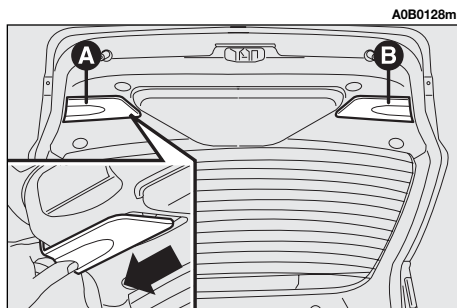

fig. 48
- Remove the cover (**A** or **B**-fig. 48) in correspondence with the light concerned, withdrawing it at the side.
— Refit the lid (**A** or **B**-fig. 48) inserting it from outside until it fits in.